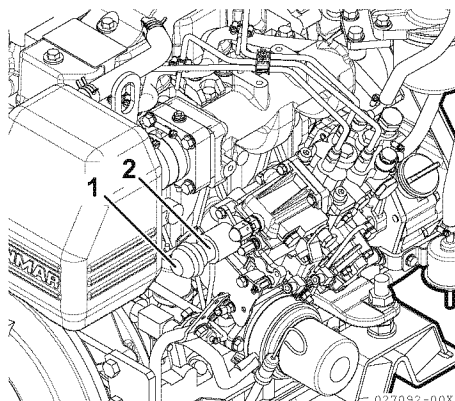

Figure 5
If the engine cannot be shut down by the stop switch on the panel, stop the engine by pushing the button **(Figure 5, (1))** at the back of the stop solenoid **(Figure 5, (2))**.